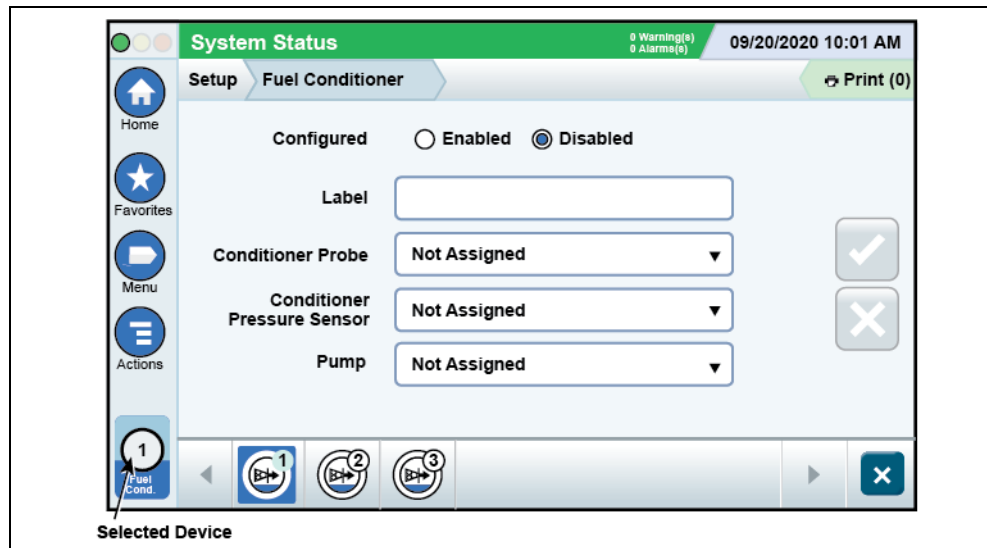

Figure 37. TLS-450PLUS Fuel Conditioner Setup Screen
1. Touch **Menu>Setup>Fuel Conditioner** to display the Fuel Conditioner Setup screen (see Figure 37)